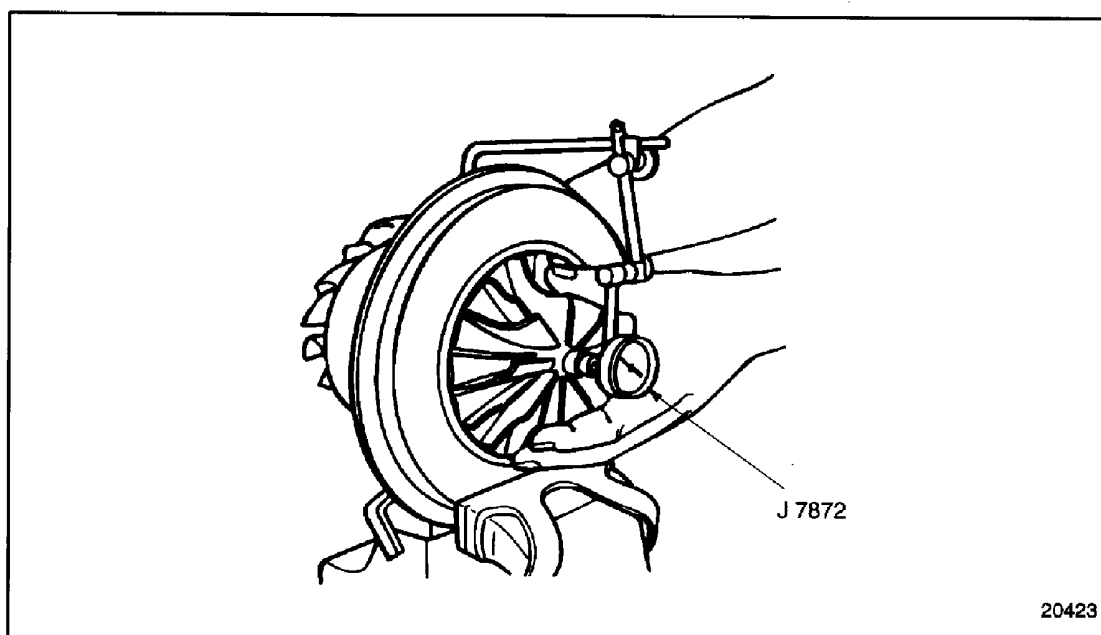

Figure 6-20 Checking Bearing Axial End Play (Series 50 Diesel)
See Figure 6-20.
- [b] Fasten the dial indicator and magnetic clamp, part of magnetic base dial indicator set, J 7872-2 part of J 7872, to the center housing so that the indicator tip rests on the end of the rotating shaft on the compressor side. See Figure 6-20.